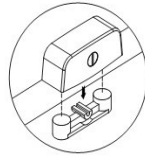

Figure 2
3. Insert left face panel (B) into the grooves of face frame (A) on the magnetic latch side. Align the plastic half part of the cam lock connectors. Make sure it fits and lock connectors with screwdriver by turning the screw located on the cam lock connector to the right 180° degrees (**see Figure 2**) Stand up side panel up right at this time.